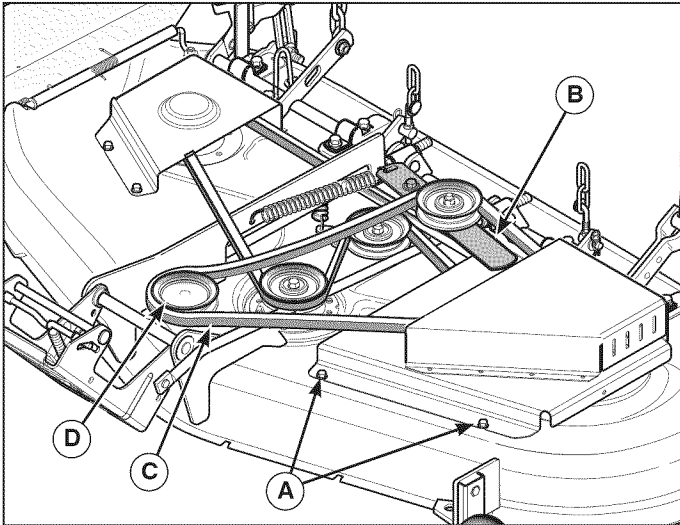

Figure 24
3. Remove screws and cover (A, Figure 24) for left blade spindle.
4. Pull the idler arm (B) to release belt tension. Remove the belt (C) from the PTO pulley (D).